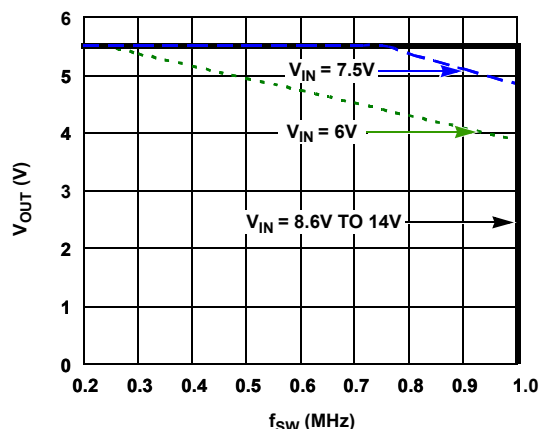

FIGURE 8. SAFE OPERATING AREA, $T_J \leq +125^\circ\text{C}$
8. Refer to Safe Operating Area in Figure 8 and thermal design guidelines in AN2010.
10. Percentage of Full Scale (FS) with temperature compensation applied.